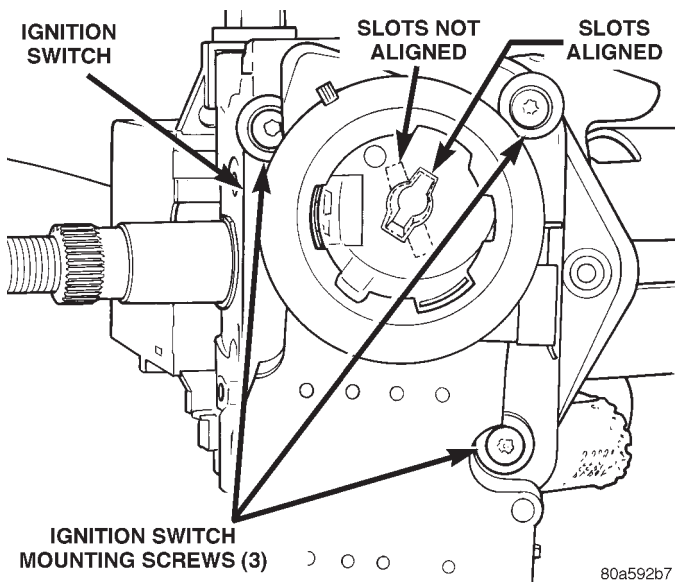

Fig. 45 Switch Mounting Screws
- (1) Remove key lock cylinder. Refer to previous steps.
- (2) Remove 3 ignition switch mounting screws (Fig. 45). Use tamper proof torx bit (Snap-On® SDMTR10 or equivalent) to remove screws.
- (1) Rotate flag (Fig. 47) on rear of ignition switch until in RUN position. This step must be done to allow tang (Fig. 48) on key cylinder to fit into slots (Fig. 45) within ignition switch.